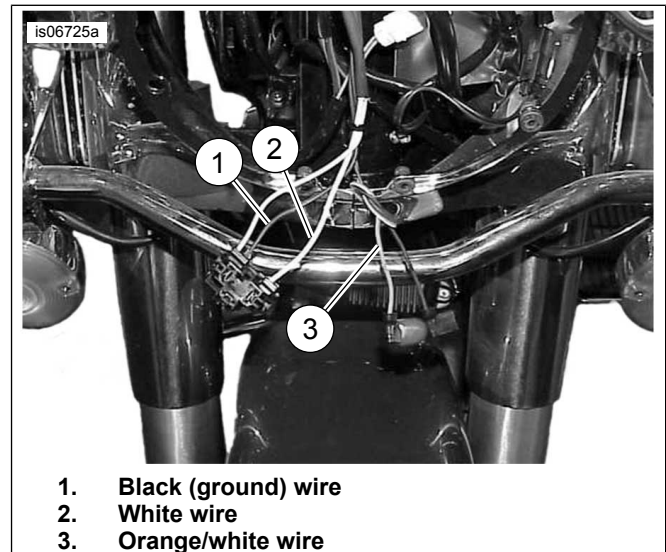

Figure 21. Wires for Transmitter Connections (2013-Earlier FLHR)
- a. **2013-Earlier FLHR Touring Models:** See Figure 21. Cut the black (1) and white (2) headlamp wires **inside the nacelle**, staggering the lengths a bit to avoid the splices being together.